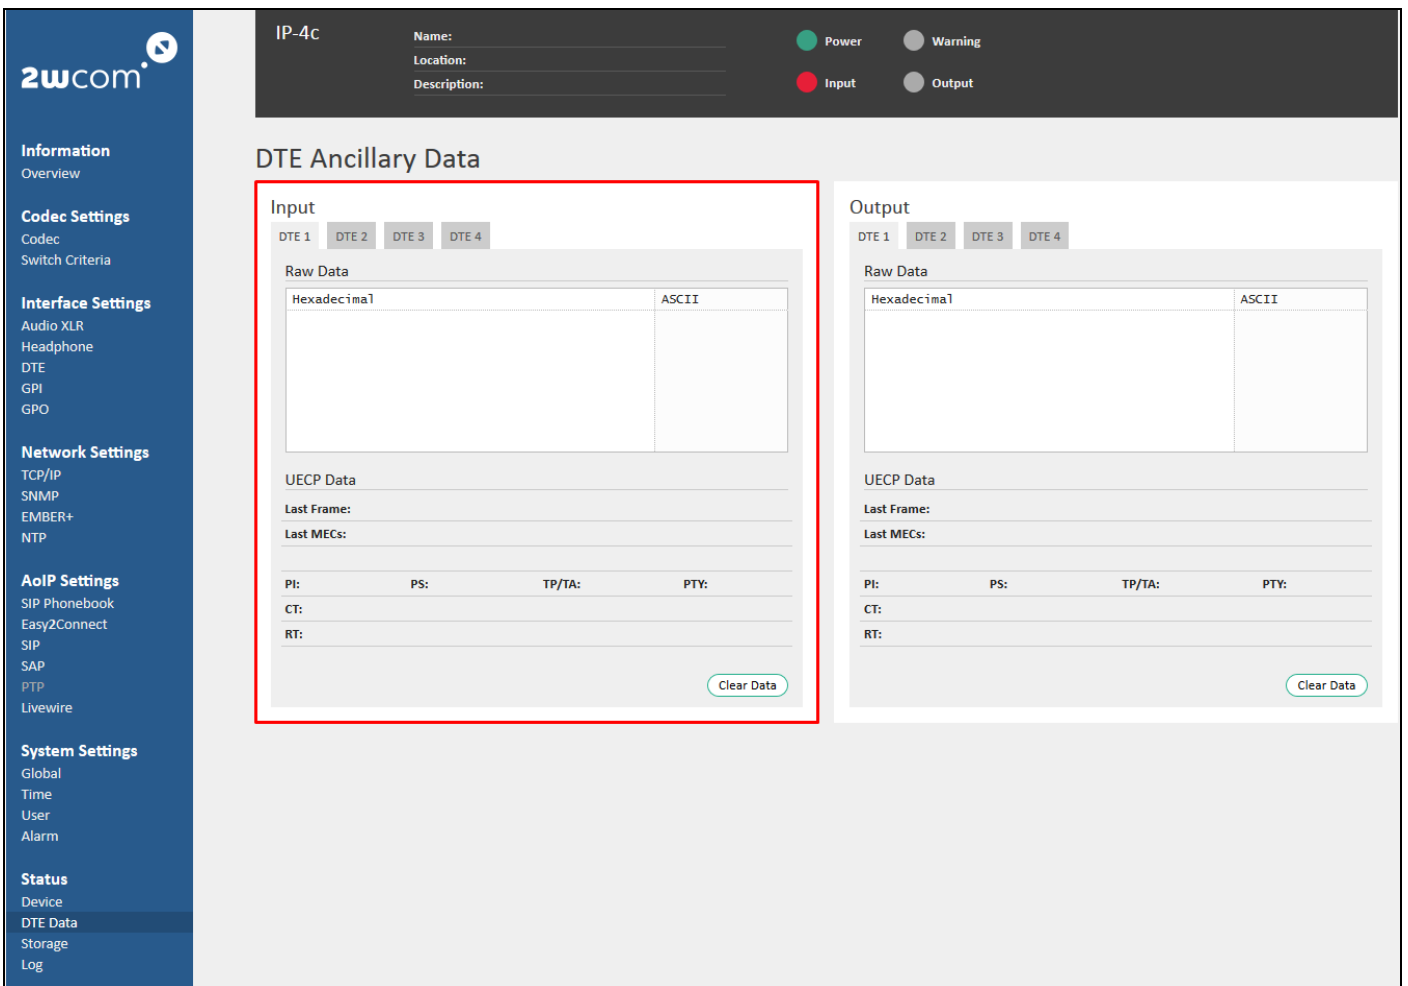

Figure 42: Status - DTE Ancillary Data
13. Under **Status**→**DTE Data** you can view the status of the encoder for the DTE Ancillary Data for DTE 1-4 inputs (s. Figure 42 below).